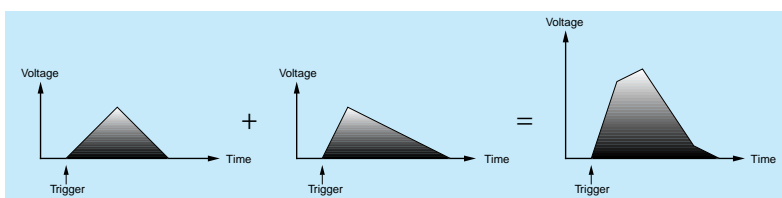

Figure 4:
► So now we are in a position to apply some standard terminology to Figure 1. The first stage is the Attack of the transient, and the second stage is its Decay. The figure represents, therefore, a functional 'AD' transient generator. Simple as these devices appear, you should not underestimate the power of AD generators. Figure 4 (opposite) shows what happens when you apply two dissimilar AD contours to a single modifier such as a VCA or VCF. As you can see, the envelope generated by the summation of the two contours is a more complex 4-stage contour. Furthermore, it's one that you cannot obtain from what is commonly called a 4-stage ADSR envelope generator. Food for thought, huh?
Figure 4 shows what happens when you apply more than one transient to a single parameter at any given time. But that's just one plot in this month's story. There's a second, and it's related to what happens when we play more than one note sequentially...